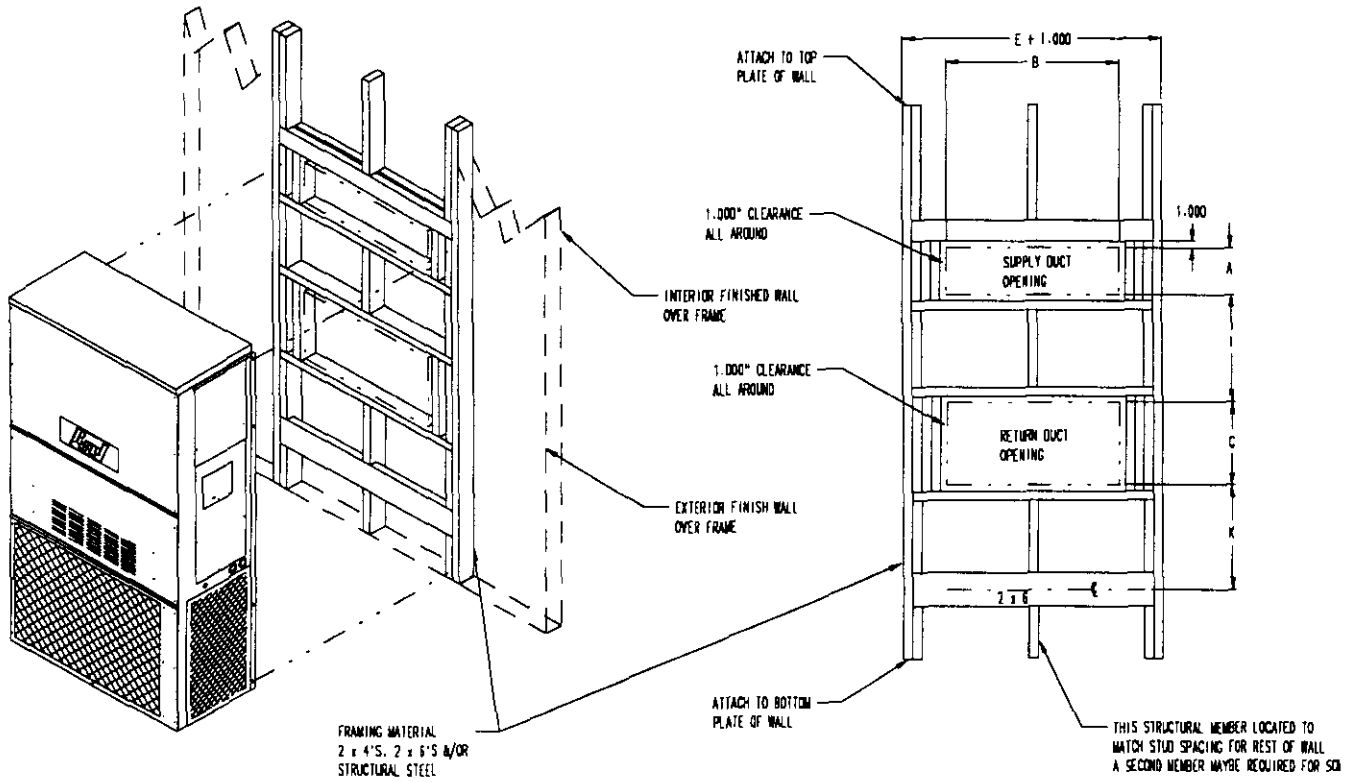

Figure 5 – Wall-Mounting Instructions
2. Coat angles with two 1/8" beads of silicone as shown. Silicone is shipped in the control panel. See Figure 5.
3. Secure angles to the top of the unit with 14 screws provided. Use of pre-punched holes provided. Do not relocate. See Figure 5.